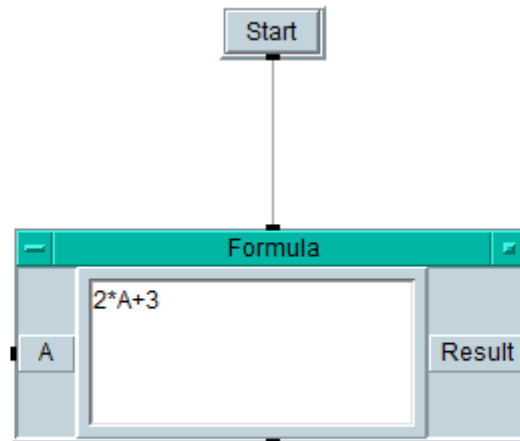

Fig. 2. A Formula object connected with a Start object
- **Start** objects operate first. In a VEE program, we connect the Start objects to the sequence input pins of other objects to make them execute first. In Fig. 2, you see a Formula object with a Start object connected to its sequence input pin. When the program runs, firstly the Formula object performs its task.